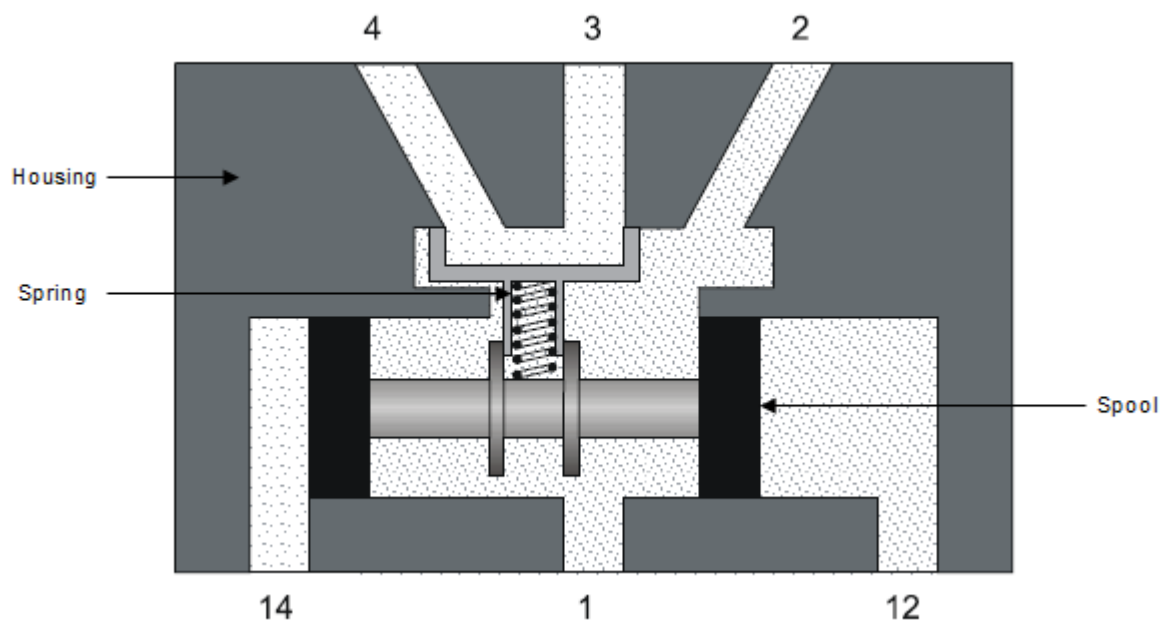

FIG 1.
A. The 4/2 way double pilot valve consist of the following components: (Fig 1)